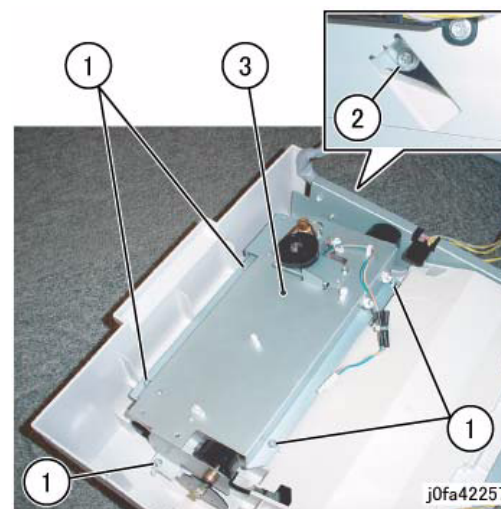

Figure 6 Removing the Stacker Assembly
12. Remove the Stacker Assembly (Figure 6):